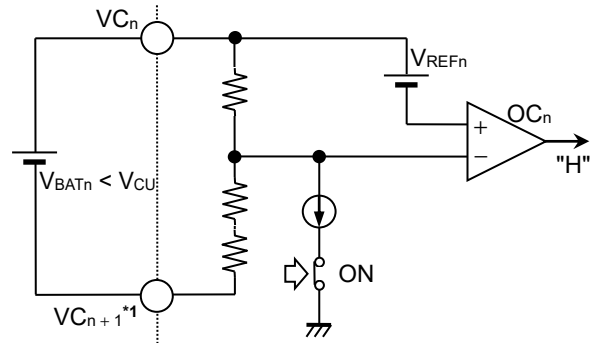

Figure 14 When Self-test Is Performed (RSTB = "H", CLK = "H_{2n-1}")
- 3rd to 12th clocks : Performs overcharge comparator n (OCn) diagnostics at the 2n – 1th clock signal among the clock signals input to the CLK pin (Refer to **Figure 14**)
Performs overcharge detection diagnostics at the 2n – 1th clock signal among the clock signals input to the CLK pin. OUT1 pin and OUT2 pin outputs are in the overcharge detection status when the clock signal is "H" regardless of whether the detection signal type is "common" or "separate" (Refer to **Figure 14**).